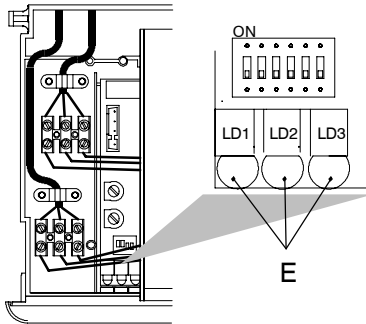
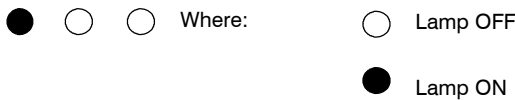

Fig. 17
Fig. 18
- 6 The lamps E should give the indication as in Fig. 17 – Fig. 18. If not, press the reset button repeatedly to obtain it.